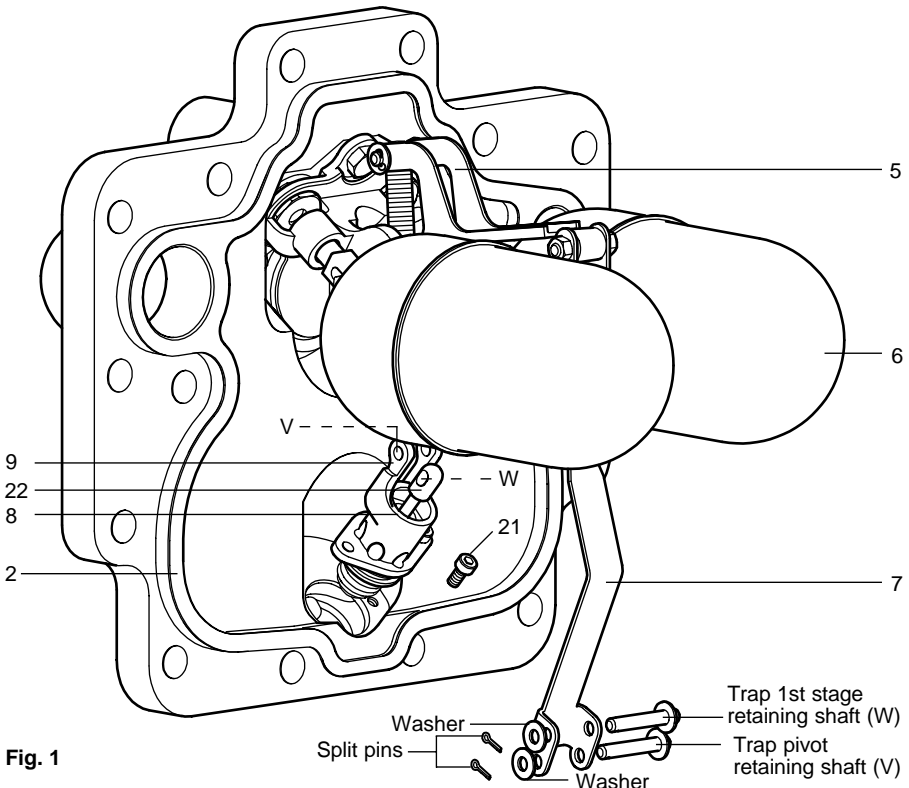

Fig. 1
3. Carefully fit a new gasket (item 2) into the existing body.
4. Remove split pin, washer and shaft from the trap pivot (V) (See Fig. 1).
5. Remove split pin, washer and shaft from the trap 1st stage valve (W).
6. The floats and levers (items 5, 6, 7) can now be swung out of the way leaving access to the trap and check valve assembly.
7. Using the 4 mm Allen key unscrew the two M5 cap screws (item 21).
- 12.** Tighten the two M5 cap screws item 21 to 5 ± 1 N m (4 ± 1 lbf ft).
- 13.** Refit the two shafts (V and W) (length 38 mm) - remembering to use new split pins and washers - to the trap housing (item 9) and trap 1st stage valve (item 22).
- 14.** Move the floats to their upper and lower limits to ensure the trap mechanism operates smoothly and both the 1st stage and 2nd stage valves (items 22, 8) slide smoothly within their guides.